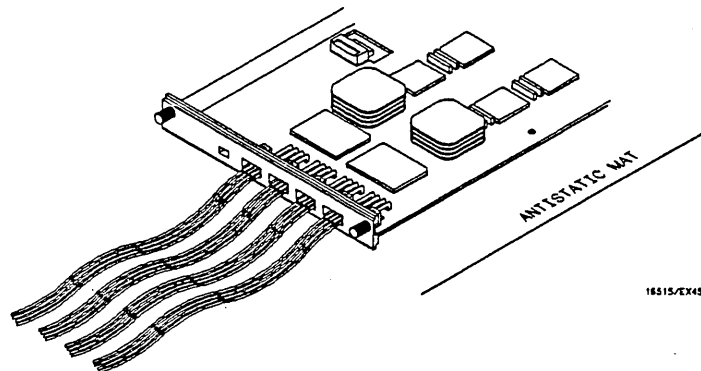

Figure 6-25. Cable Position
- Lay module card(s) on antistatic mat with probe assemblies(s) flat and pointing out to rear of card. See figure 6-25.